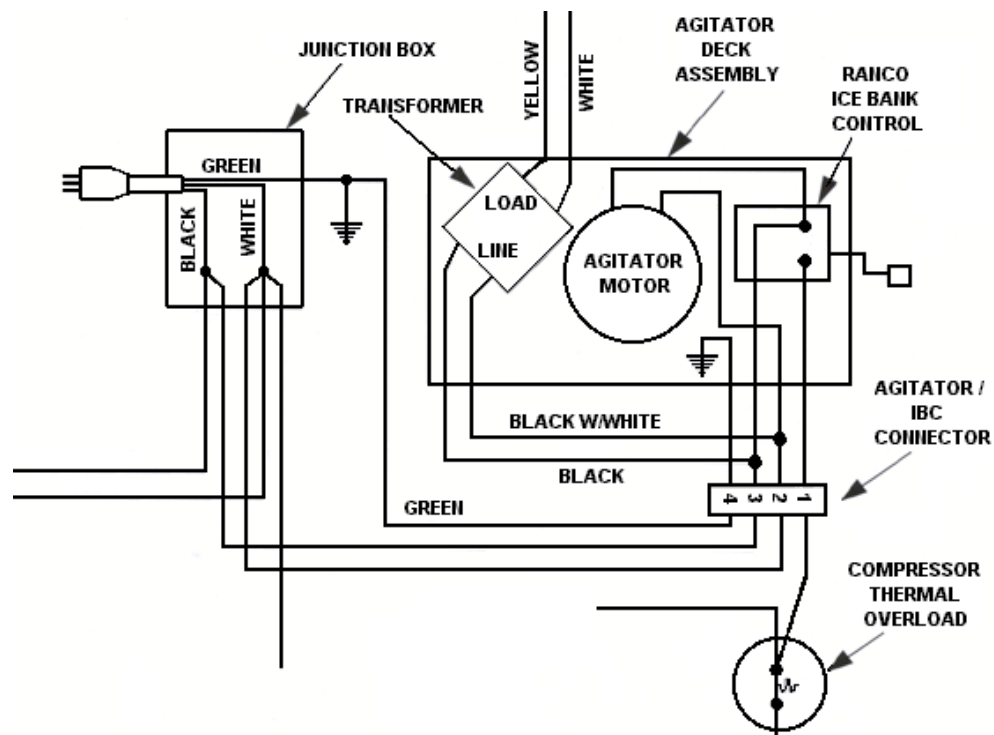

Figure 1A
- 1.5 Remove three (3) leads from Ranco Control, noting which lead goes to the Junction Box and which lead goes to the Compressor (third lead goes to Agitator Motor). The lead going to the Compressor is on Pin 1 of the Agitator/IBC connector and the lead going to the Junction Box is on Pin 3 (see Figure 1A).